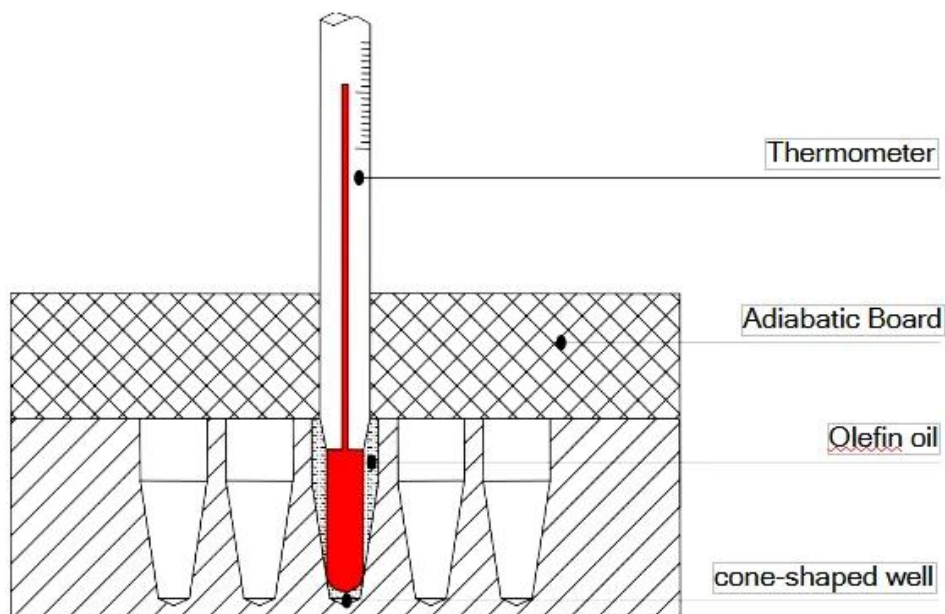

Figure 6
- b) Inject olefin oil into one of block well, and then put a thermometer into this well (the precision of the thermometer should be 0.1C and the temperature ball should be absolutely immersed into the olefin oil in the block well). Adiabatic material is needed on the block to separate it from the circumstance. (refer to below Figure 6)